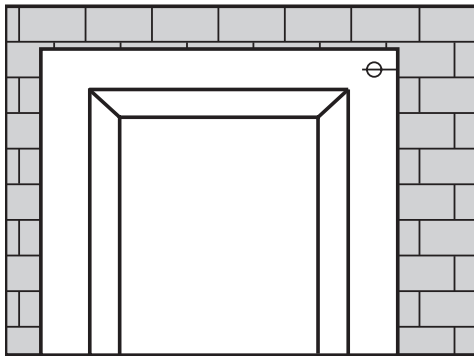

Figure 3 / Figura 3
4. When mounting on brick, stone or other masonry products, locate the screw holes so they enter mortar joints. Drill holes to accept suitable masonry anchors and attach shutter (see Figure 3)